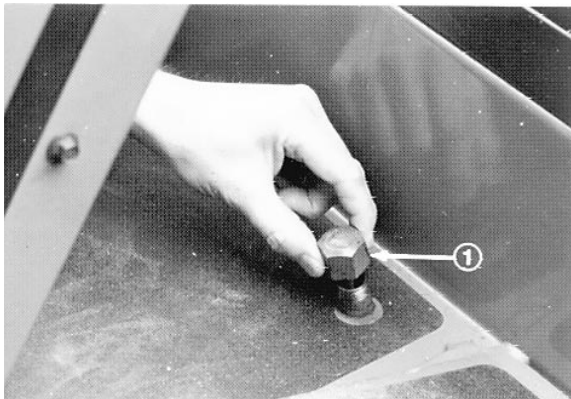

Figure 5
2. Remove the dipstick cap (Fig. 5) from filler neck and wipe it with a clean cloth. Screw the dipstick cap finger-tight onto filler neck; then remove it and check the level of fluid. If the level is not within 1/2 inch (13 mm) from the groove in the dipstick (Fig. 5), add SAE 10W-30 engine oil, or, if used, automatic transmission fluid to raise the level to groove mark. Do not overfill.